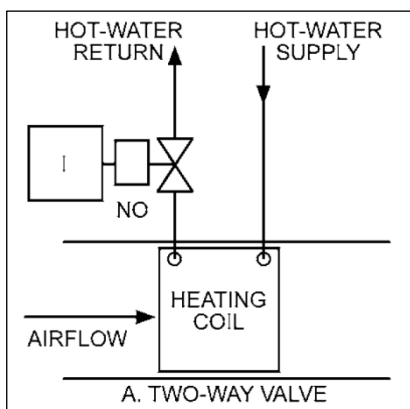
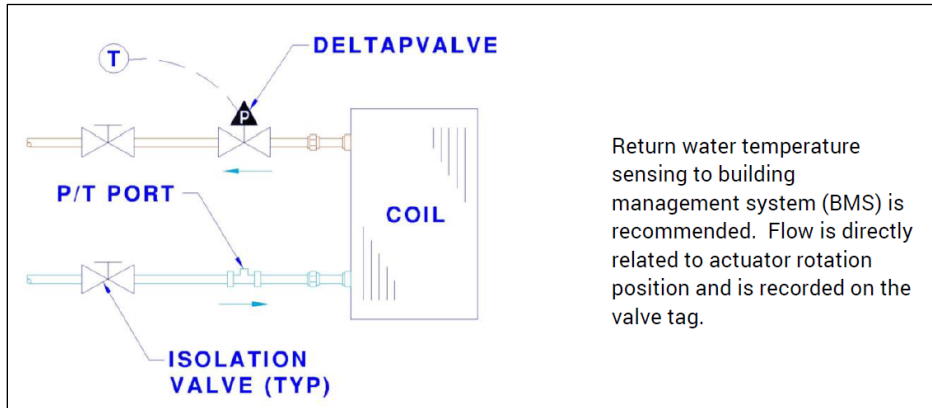

Figure 1: Control of Hot-Water Coils
Figure 4: DeltaPValve with Typical Coil
- Figure 1: 2019 ASHRAE Handbook – HVAC Applications, 48.2, Figure 4
- Figure 4: FCI DeltaPValve System Design Manual, Coil Piping Schematics, p.16, Figure 9